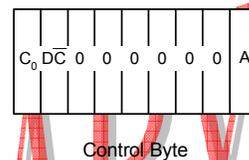

Figure 7 I2C Protocol
The SH1106 supports both read and write access. The  $R/\bar{W}$  bit is part of the slave address. Before any data is transmitted on the I2C-bus, the device that should respond is addressed first. Two 7-bit slave addresses (0111100 and 0111101) are reserved for the SH1106. The least significant bit of the slave address is set by connecting the input SA0 to either logic 0 (VSS) or 1 (VDD1). The I2C-bus protocol is illustrated in Fig.7. The sequence is initiated with a START condition (S) from the I2C-bus master that is followed by the slave address. All slaves with the corresponding address acknowledge in parallel, all the others will ignore the I2C-bus transfer. After acknowledgement, one or more command words follow which define the status of the addressed slaves. A command word consists of a control byte, which defines  $C_0$  and  $D/\bar{C}$  (note1), plus a data byte (see Fig.7). The last control byte is tagged with a cleared most significant bit, the continuation bit  $C_0$ . After a control byte with a cleared  $C_0$ -bit, only data bytes will follow. The state of the  $D/\bar{C}$ -bit defines whether the data-byte is interpreted as a command or as RAM-data. The control and data bytes are also acknowledged by all addressed slaves on the bus. After the last control byte, depending on the  $D/\bar{C}$  bit setting, either a series of display data bytes or command data bytes may follow. If the  $D/\bar{C}$  bit was set to '1', these display bytes are stored in the display RAM at the address specified by the data pointer. The data pointer is automatically updated and the data is directed to the intended SH1106 device. If the  $D/\bar{C}$  bit of the last control byte was set to '0', these command bytes will be decoded and the setting of the device will be changed according to the received commands. The acknowledgement after each byte is made only by the addressed slave. At the end of the transmission the I2C-bus master issues a stop condition (P). If the  $R/\bar{W}$  bit is set to one in the slave-address, the chip will output data immediately after the slave-address according to the  $D/\bar{C}$  bit, which was sent during the last write access. If no acknowledge is generated by the master after a byte, the driver stops transferring data to the master.